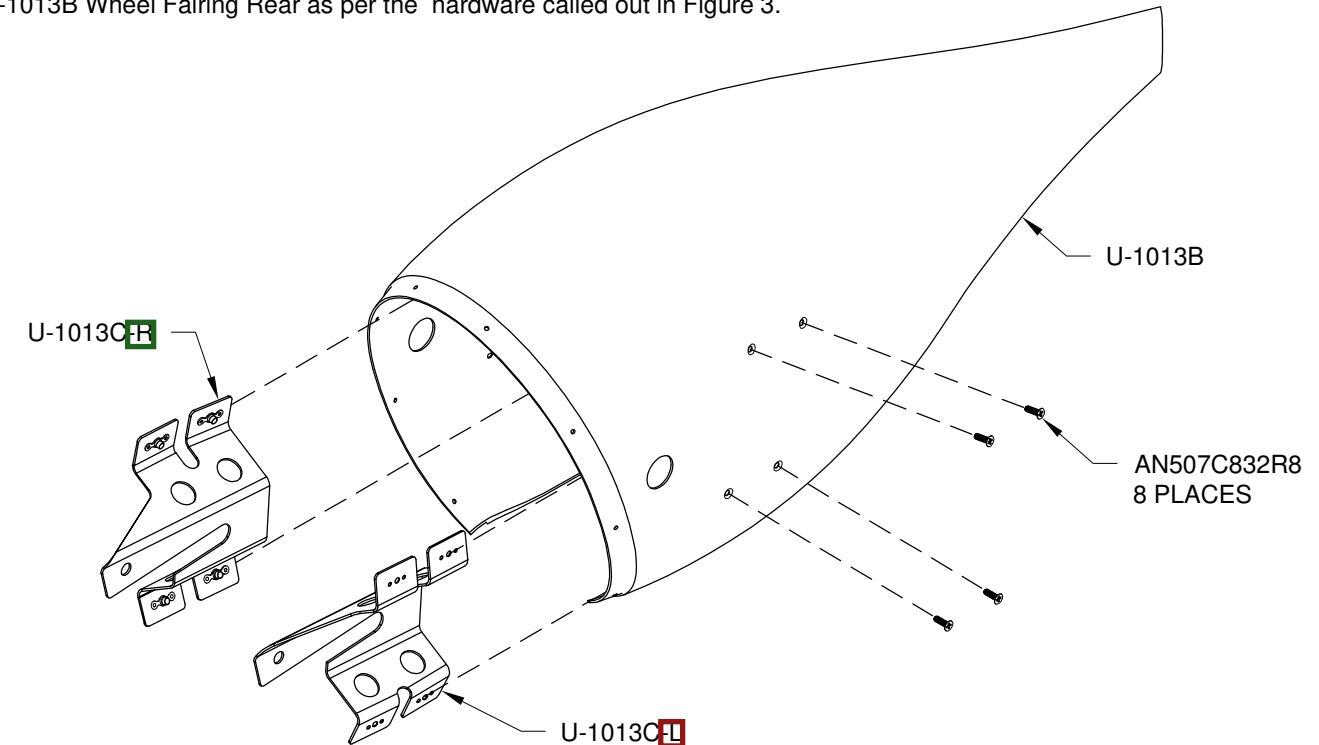

FIGURE 3: ATTACHING NOSE WHEEL - FAIRING BRACKETS
Step 3: Attach the U-1013C_{L/R} Nose Wheel - Fairing Brackets to the U-1013B Wheel Fairing Rear as per the hardware called out in Figure 3.